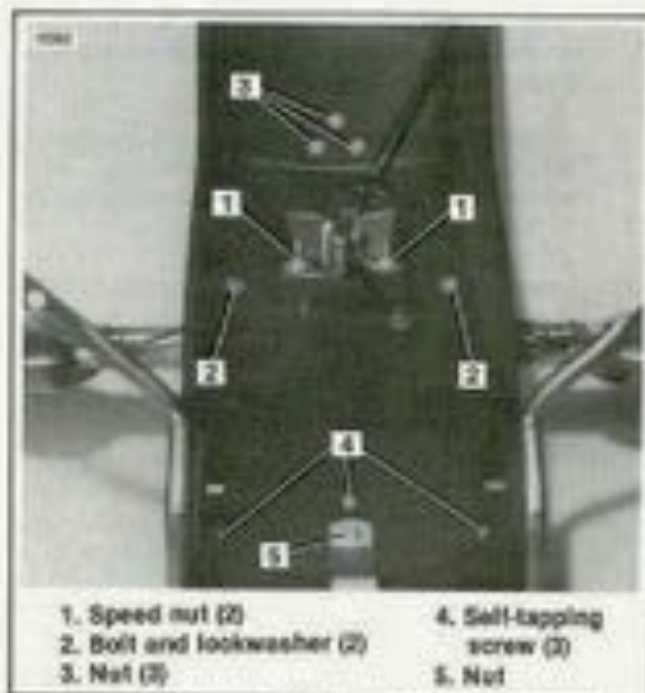

Figure 2-127. Turn Signal and Tailight Removal
- See Figure 2-127. Remove and discard the two 1/4 in. speed nuts (1) securing the tailight. Remove the two bolts and lockwashers (2) securing the turn signal assembly.